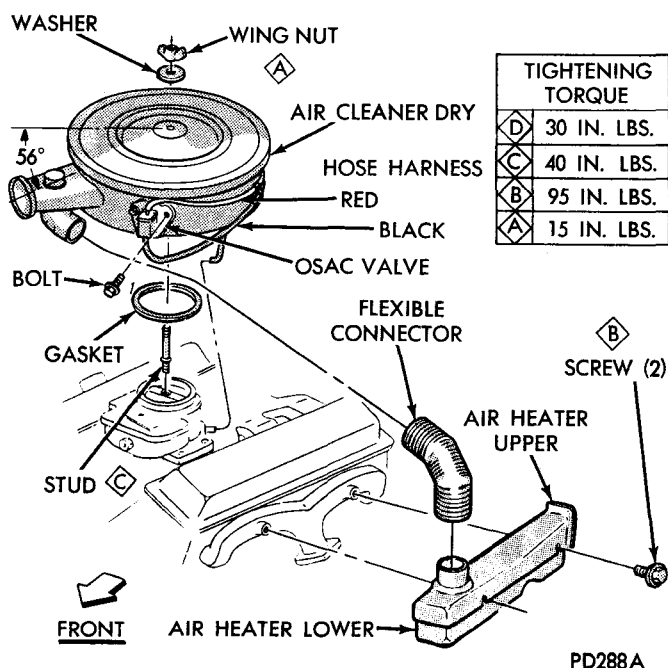

Fig. 6—Carburetor Air Heater and Air Cleaner 361 and 413 Cubic Inch Engines
- (1) Disconnect flexible connector between air cleaner and carburetor air heater at the heat stove.
- (2) Refer to figure 6, remove attaching screws, nut and washer assemblies and remove carburetor air heater.
- (3) Inspect air heater; replace if damaged.
(1) Refer to figure 6, install carburetor air heater with attaching screws, bolts, nut and washer assemblies. Torque to specifications.
(2) Install flexible connector between air cleaner and carburetor air heater.